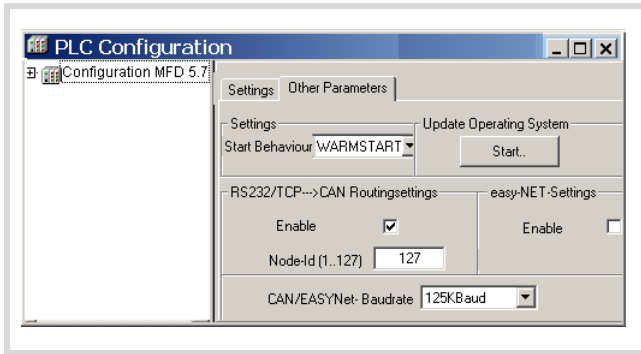

Figure 61: Routing settings for master and device
- ▶ In the PLC configuration set the routing ID and the CAN baud rate in the Other Parameters tab, → figure 61.
Define the routing ID and the CAN baud rate of the target stations, e.g. MFD4, in the station configuration in the Other parameters window, → figure 61.